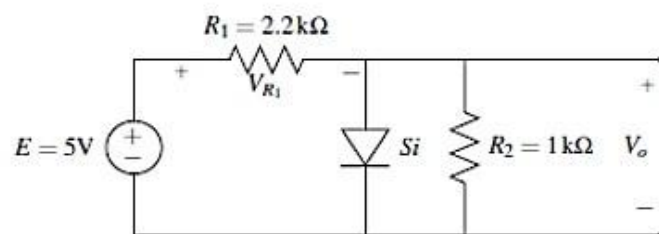

Figure 1.13: Schematic for task 5 with diode connected in parallel to a resistor
4. Now, replace the Germanium diode in above simulated circuit by a 1k Ohm resistor as shown in Figure 1.13. Predict the output voltage and verify it by simulating the circuit using PSpice. Fill in the results in Table 6.